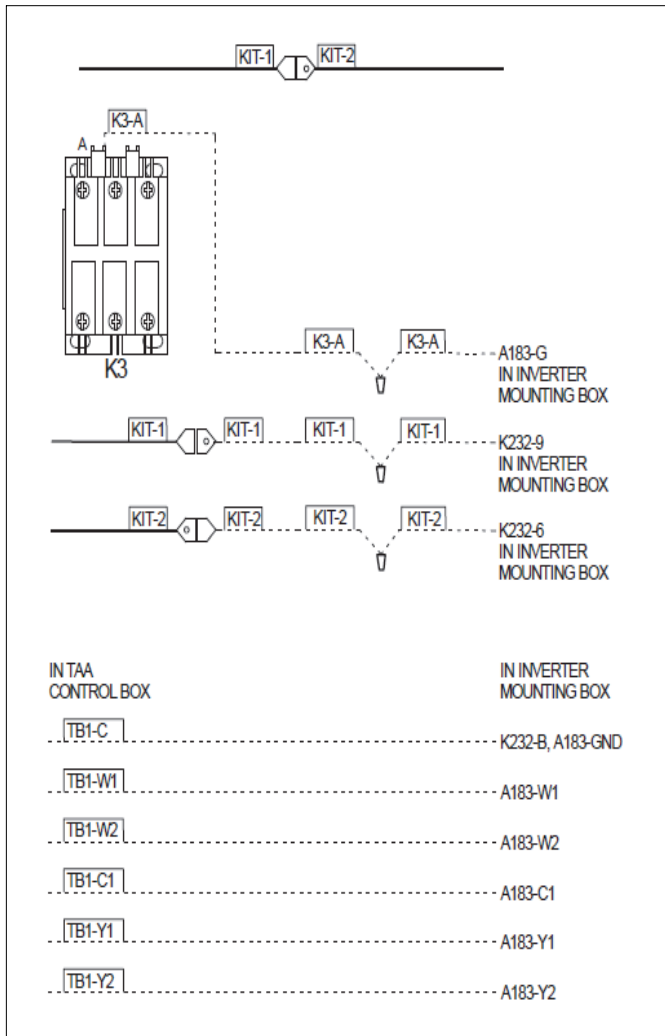

Figure 11. Low Voltage Connections – Units with 24VAC Terminal
- 5.3. Make wiring connections according to figure 11.
- 5.9. Connect remaining low voltage wires to the terminal block **TB1** as shown in figure 11 and as per wire marking. Replace existing wiring diagrams on TAA unit with diagrams provided in kit.